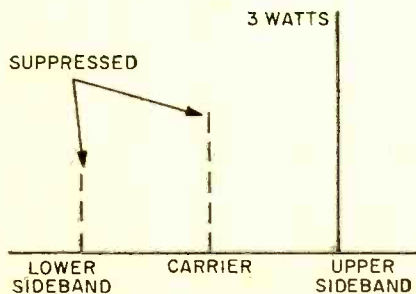

Fig. 4 One sideband receives all the power once used by suppressed carrier and other sideband.
**Suppressing the Villains.** Now take the array of signals and let's repackage them in far more efficient fashion. As shown in Fig. 4, the same three RF watts have been completely jammed into the upper sideband. The carrier is now considered *suppressed*, its energy poured into the upper sideband. Similarly, the lower sideband is suppressed and its energy also shifted to the upper sideband. Now, every bit of RF wattage is serving the cause; to send maximum voice power without violating FCC power restrictions. Before seeing how this three-into-one package is created, note another important benefit in Fig. 4. The signal—now single sideband—is far narrower than the original. It's about 3 kHz wide instead of 6 or more kHz. This is behind the claim that sideband takes 23 channels and doubles them to 46. It's possible for two independent sideband stations to operate on the same assigned channel; one selects the lower sideband as the other transmits on the upper position. Since they're several kHz apart, there's no